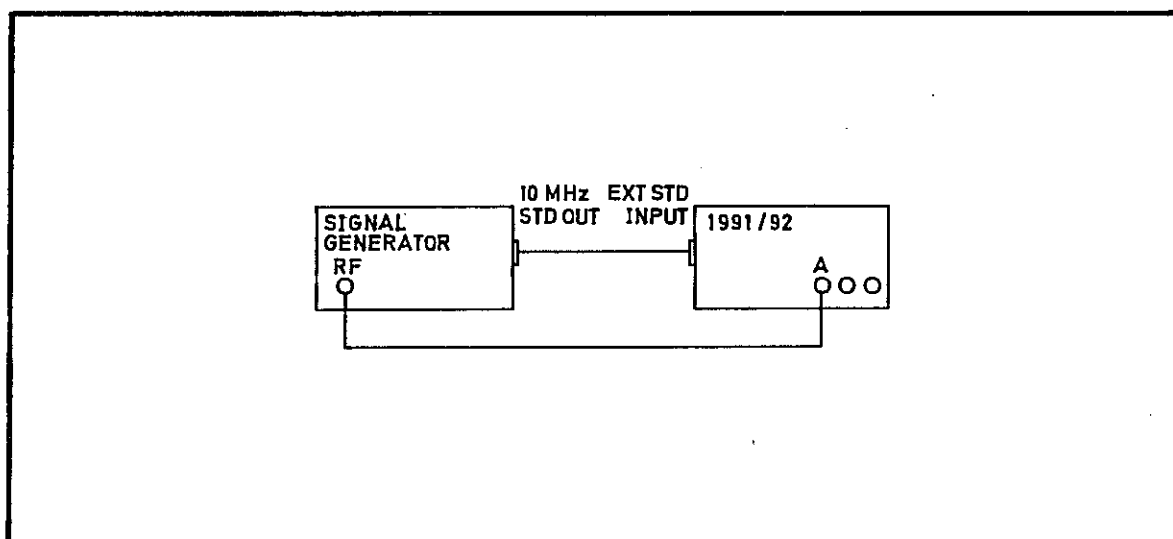

Fig 7.10 Connections for Channel A Input System Adjustment
- 30 (1) Switch the 1991/92 on. Select FREQ A.
(2) Select  $50\ \Omega$  impedance for channel A.
(3) Press the RESOLUTION  $\downarrow$  key five times, until 000 is displayed.
- (4) Connect the test equipment as shown in Fig 7.10.
- (5) Set the signal generator output to 100 MHz at a level of 3.0 mV r.m.s.
- (6) Verify that the EXT STD indicator is lit, and that the channel A TRIG indicator is flashing.
- (7) Adjust R192 to obtain the most stable display indication of  $100.0 \underline{6} \pm 0.1 \underline{6}$ , with the GATE indicator flashing.